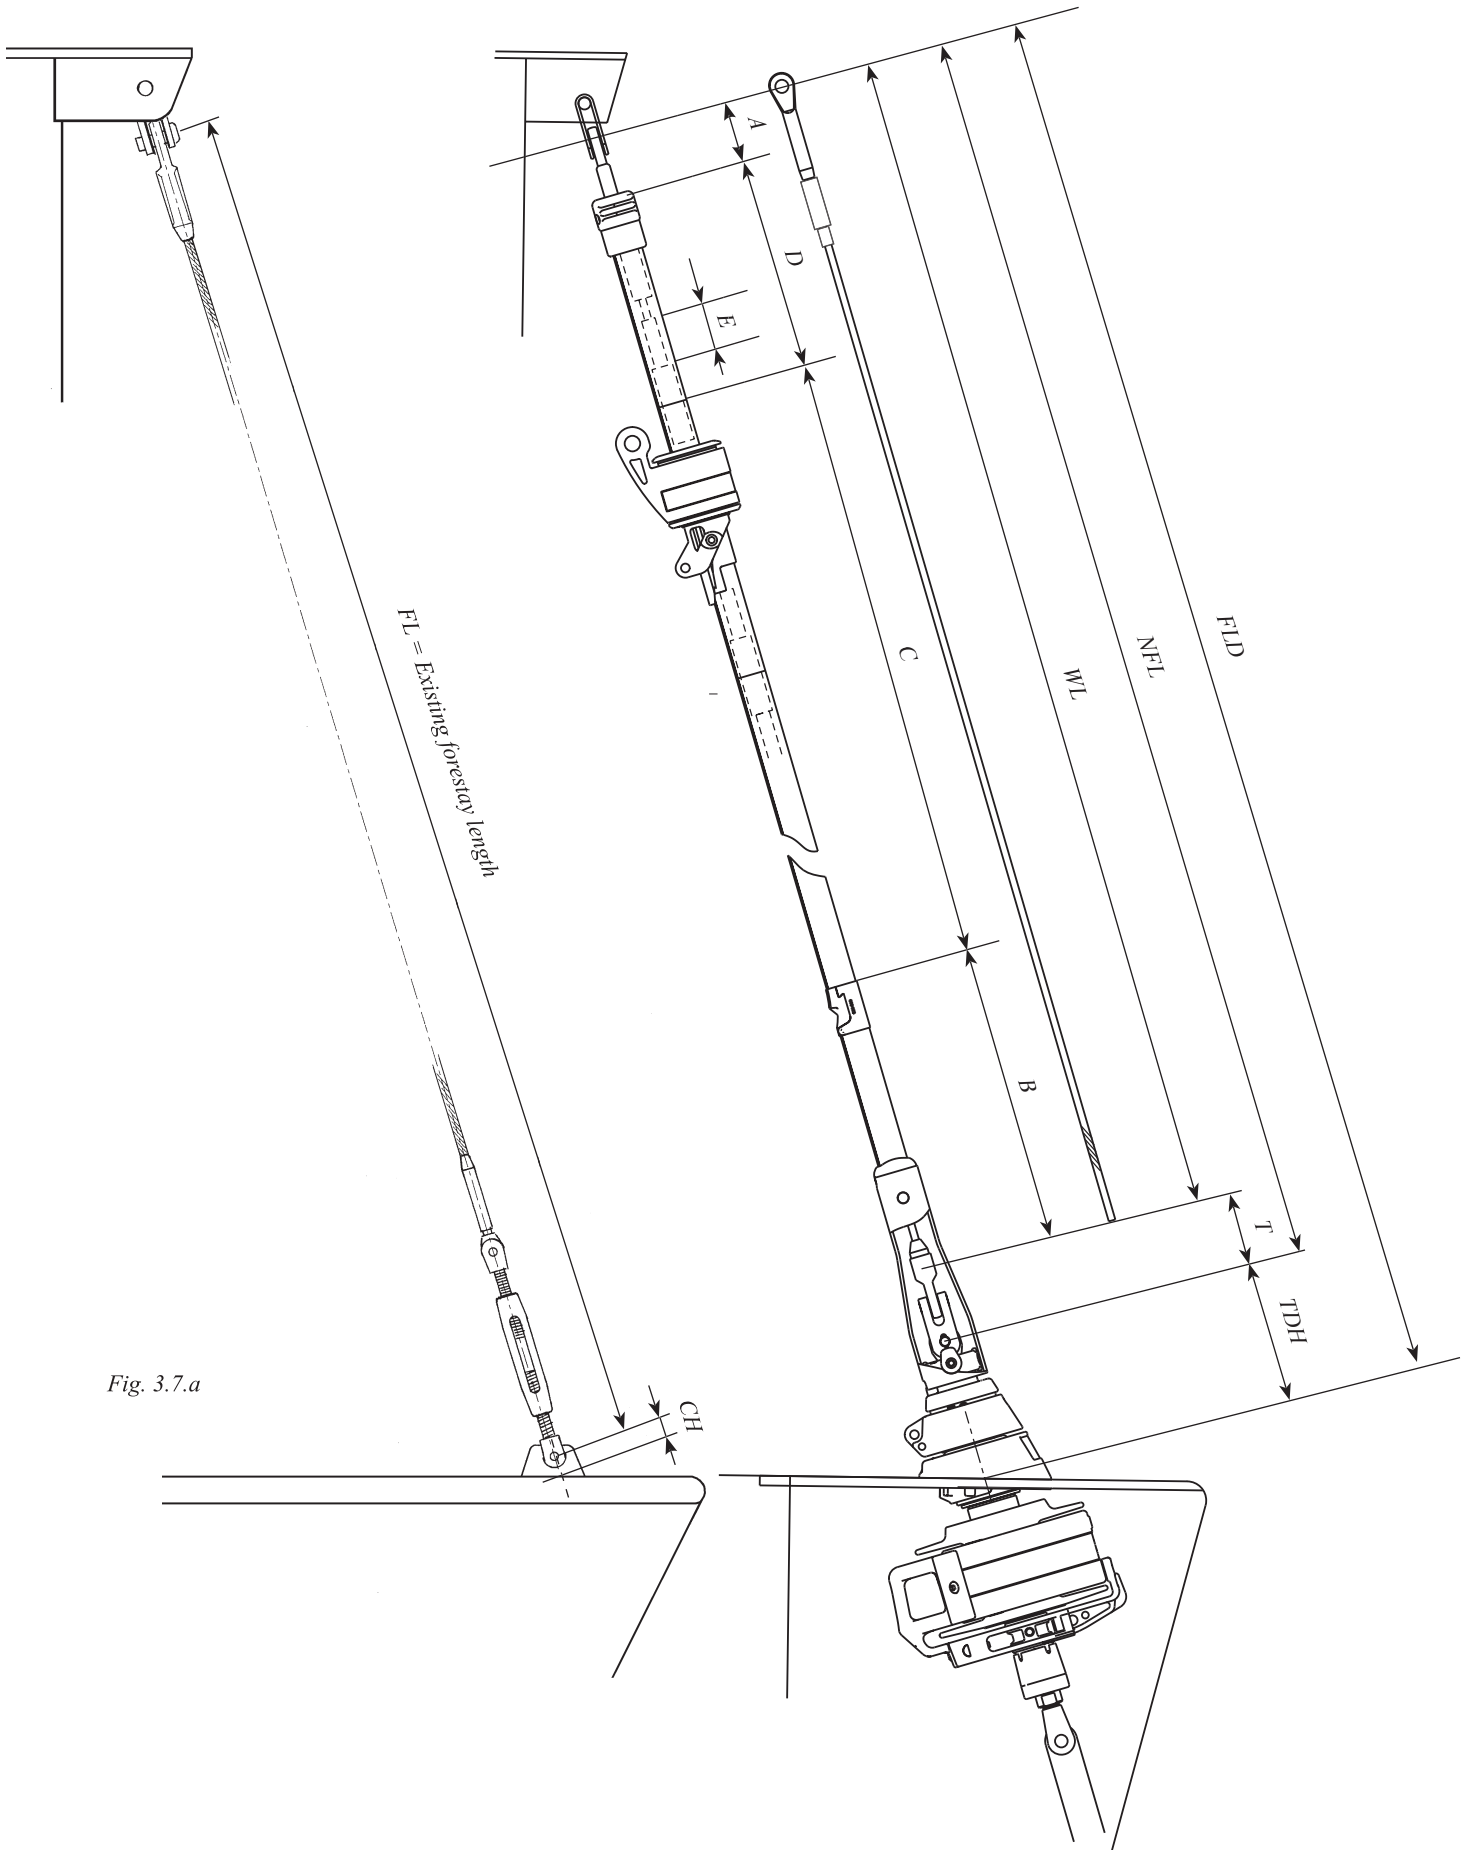

Fig. 3.7.a
NOTE. If the forestay is to be used to decide the forestay length FLD (see fig. 3.7.a), the setting of any rigging screw must not be changed
5. Measure the height CH (see fig 3.7.a) on the forestay fitting and enter the figure in table 3.6.1.
7. Mark the intersection point on the underside of the deck by drawing a line along the longitudinal centreline of the boat and using earlier marking as per item 3.
5. Measure the forestay length (FL) with just enough tension to keep it straight.
7. Calculate the new wire length WL in Table 1. Refer to the column marked "example" and fig. 3.7.a to see how this is done.